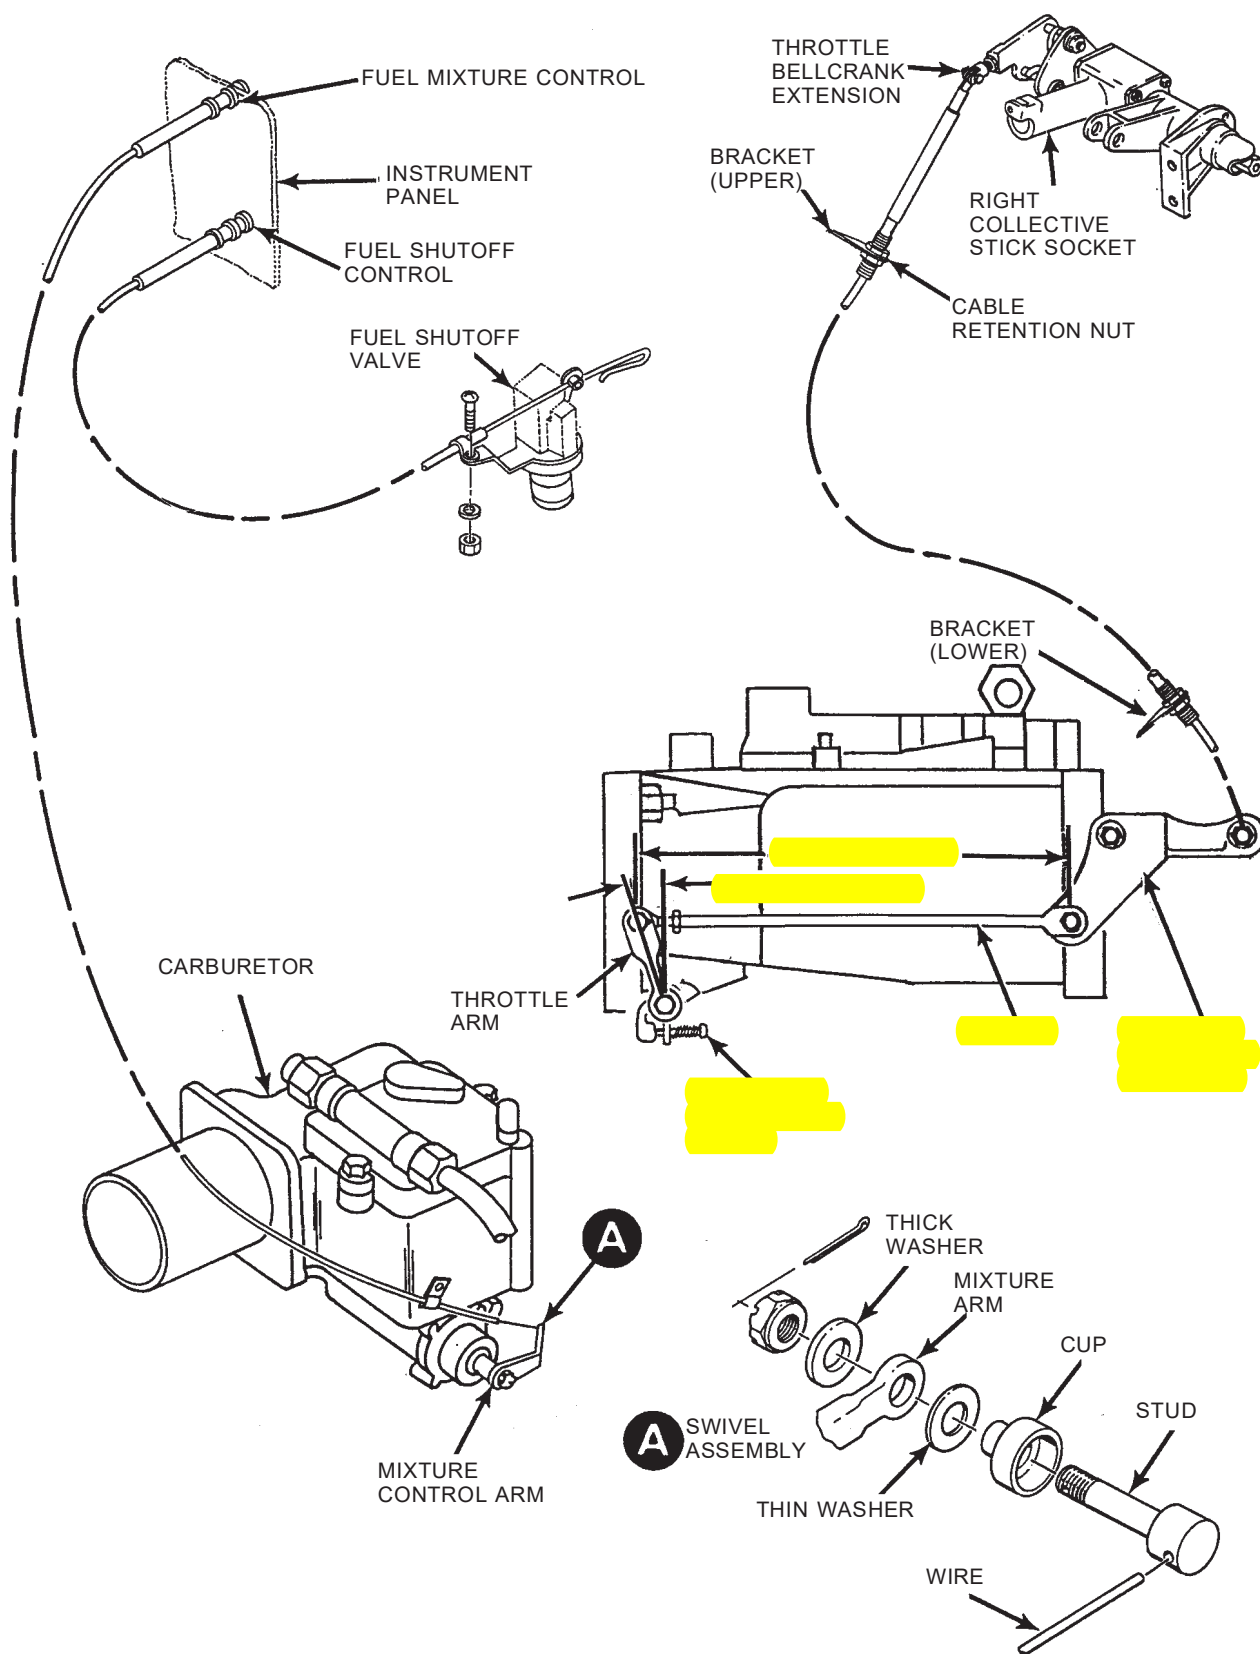

Figure 4-1. Engine Controls (Carburetor Engine) (Sheet 1 of 2)
- e. Set the throttle arm to full closed (idle) position. Verify that throttle arm is approximately 17° counterclockwise from vertical position (Fig. 4-1). If not, remove arm-to-shaft cotter pin and back off the securing nut. Move arm on shaft serrations (15° spacing) to obtain correct position. Retighten nut while maintaining arm position and secure with cotter pin.